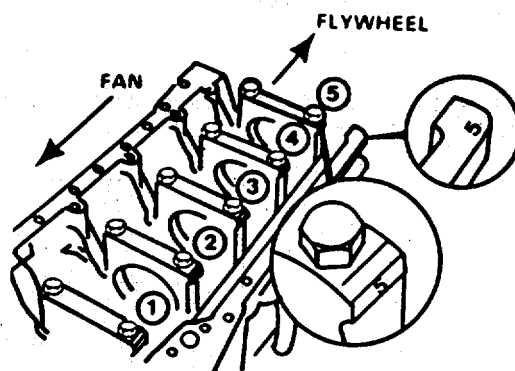

FIGURE 4-57. Numbering Main Caps.
- b. The main caps should be numbered. If they are not, be sure to mark them with the correct number as shown in FIGURE 4-57.